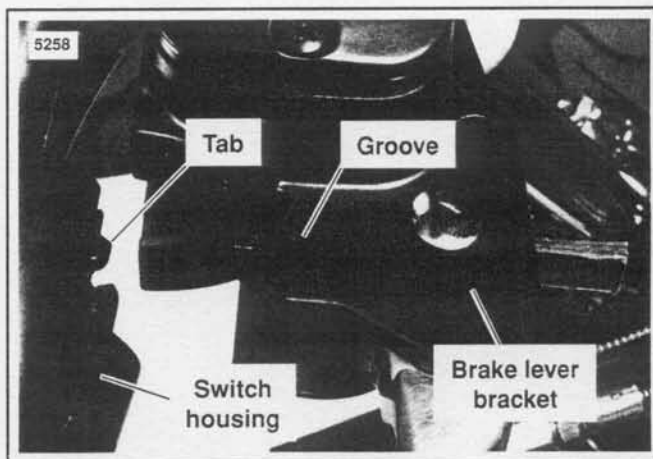

Figure 2-46. Fit Brake Lever/Master Cylinder to Right Handlebar Switch Housings
12. See Figure 2-46. Position the brake lever/master cylinder assembly inboard of the switch housing assembly engaging the tab on the lower switch housing in the groove at the top of the brake lever bracket.